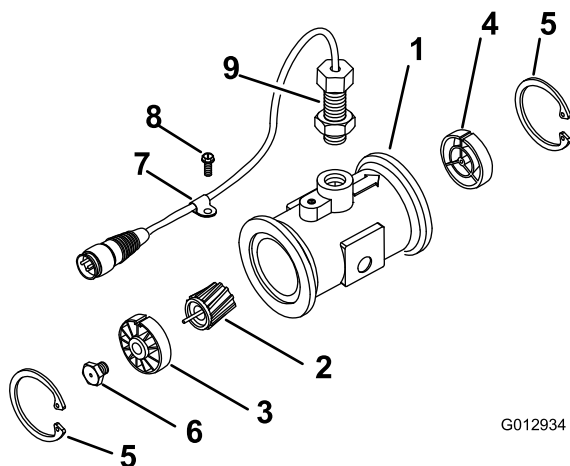

Figure 14
3. Remove the retainer ring on the upstream side (Figure 14).